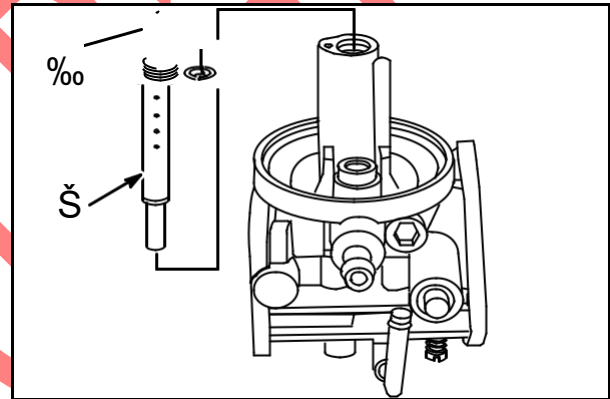

Fig. 45
4. Remove emulsion tube (10), **Fig. 45**.